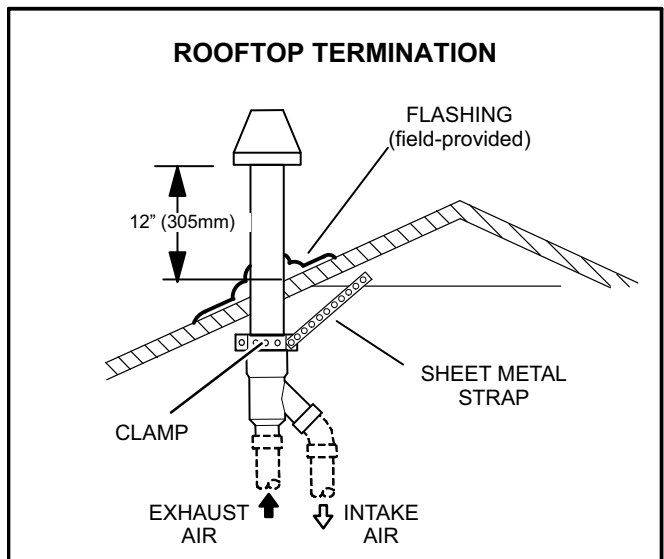

FIGURE 3
- 5 - Run outer pipe through roof opening. Use a sheet metal strap to secure termination to the roofing joist as shown in figure 3.
- 6 - Slide field-provided flashing over pipe and secure flashing to roof as shown in figure 3. Seal around flashing to make sure it is weather-tight.